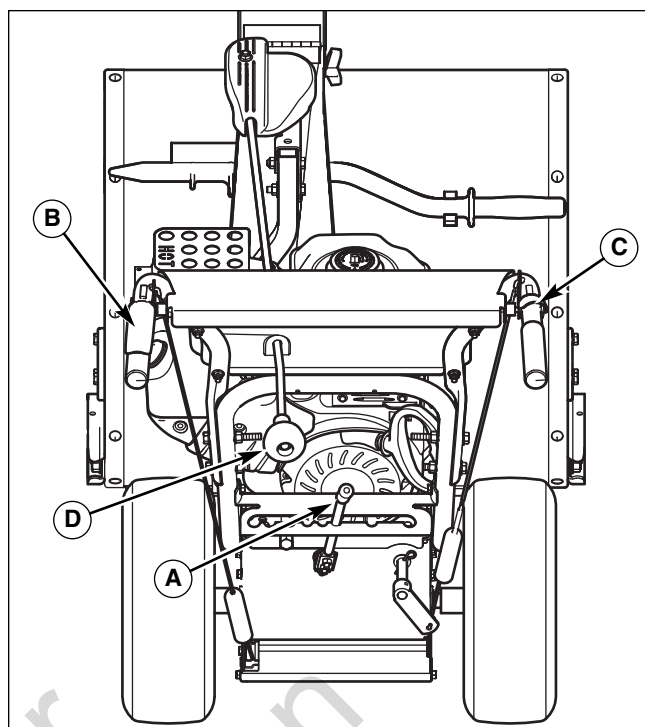

Figure 8. Controls (from operator's position)
1. Rotate the discharge chute (D, Figure 8) to the desired direction.
2. Set the speed selector (A) to the desired forward speed.
3. Fully press and hold the auger engage control (C) on the right-hand grip to begin auger rotation. Releasing the auger engage control will disengage the auger.
4. Fully press and hold the traction Control lever (B) on the left-hand grip to engage the traction drive and begin moving the snowthrower. To disengage the traction drive, completely release the lever.
5. Select forward or reverse speeds as needed using the Speed Selector (A). Release the traction lever before changing drive speeds.
Use the speed selector (A, Figure 8) to control the drive speed of the snowthrower. There are six forward speeds and two reverse speeds.